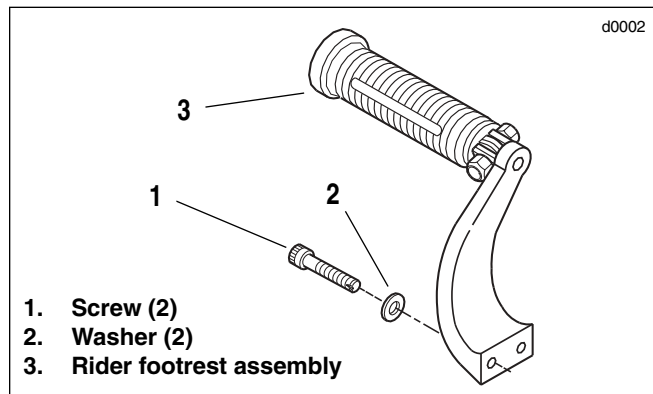

Figure 4. Left Rider Footrest Assembly
- a. See Figure 4. Remove two screws (1), washers (2) and left rider footrest assembly (3).